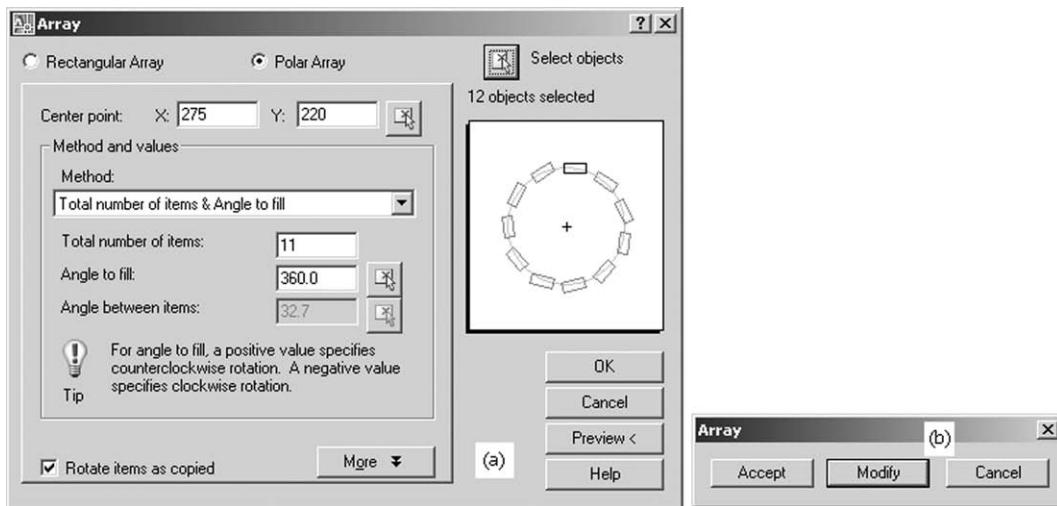

Figure 22.3 The dialogue box and AutoCAD message for the Polar Array.
- prompt* Array dialogue box as Figure 22.3(a)
b) Array message – Figure 22.3(b)